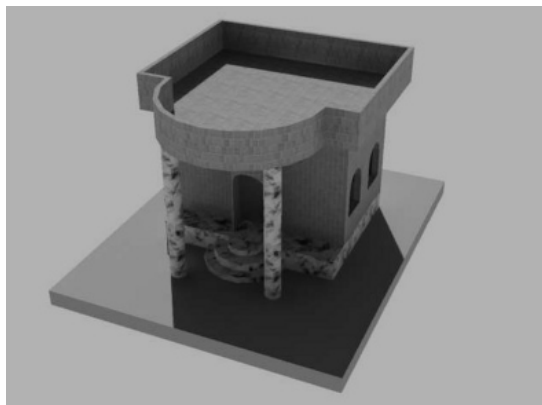

Figure 30-97 Rendered model for Example 5
2. Select the materials of your choice and attach them to the model, as described in Example 1. The rendered image of the model is shown in Figure 30-97.